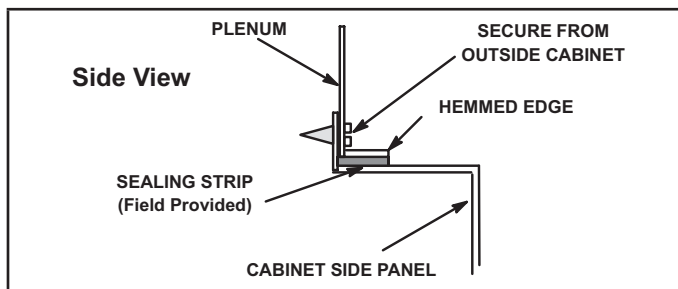

FIGURE 9
- 1 - Bottom edge of plenum should be flanged with a hemmed edge (See FIGURE 9).